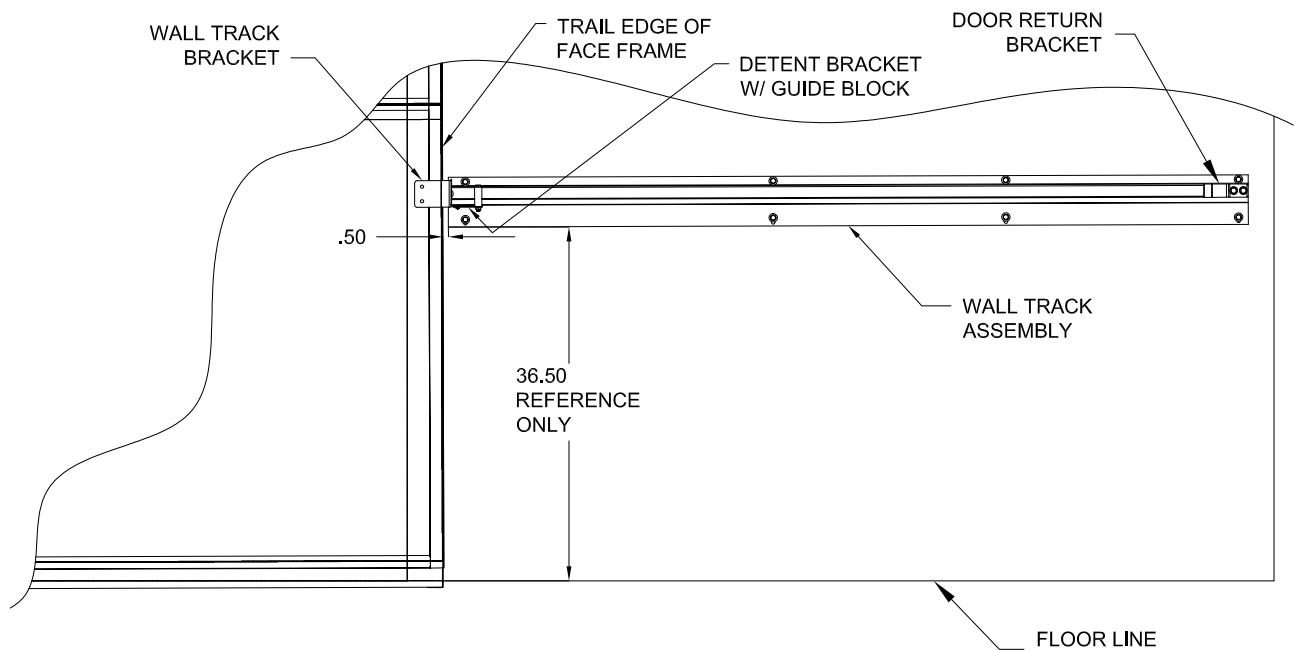

Figure 16: Wall Track Installation
2. With door in closed position, use following steps to mount wall track assembly (Figure 16).
7. Open & close door several times, checking that door moves freely, and that guide block rides in slot. Adjust height of detent bracket, and vertical position of wall track assembly as needed (Figure 16 & 18). Tighten all fasteners.